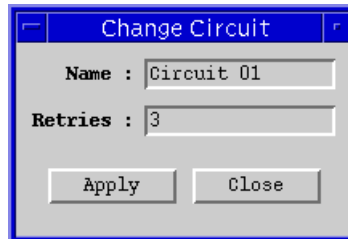

Figure 4-3. The Change Circuit Window
2. If you want to change a circuit's name or the number of retries, highlight the appropriate circuit and click **Change Name/Retries**. The Change Circuit window, Figure 4-3, will appear.